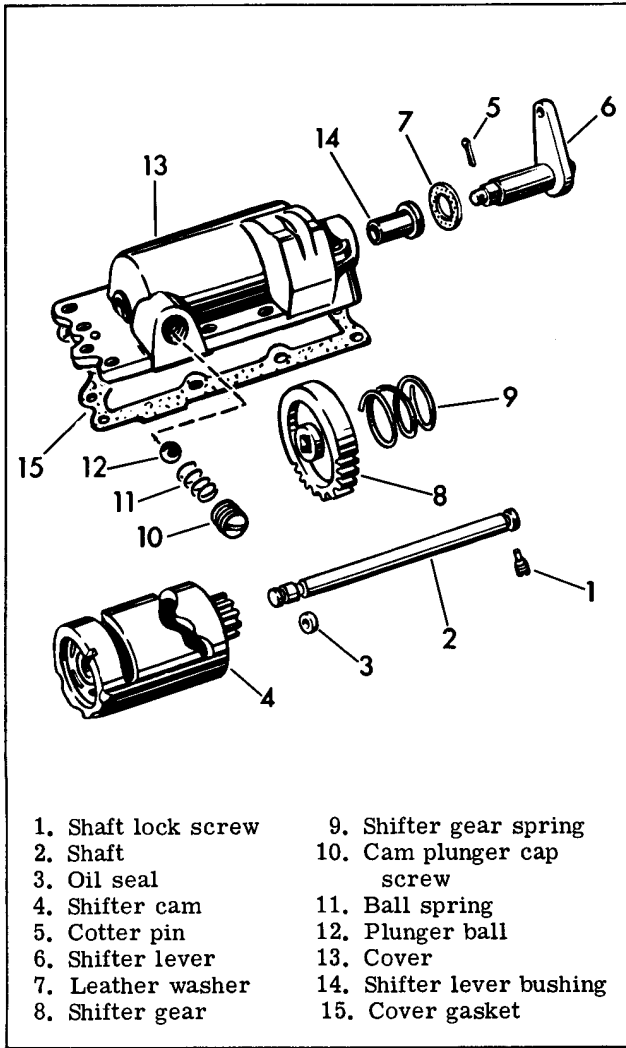
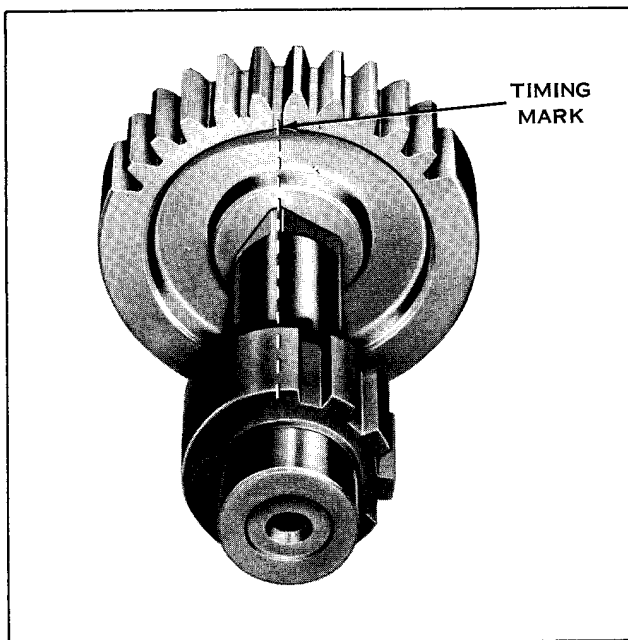

Figure 4-11. Hand Shifter Cover - Exploded View
Figure 4-13. Timing Shifter Gear
Disassemble shifter cover parts 1 through 12 as described in "Disassembling Shifter Cover (Foot Shift)," see Figure 4-11. Time shifter notches as illustrated in Figure 4-13. Loosen screw (14, Figure 4-11) and rotate adapter plate (16) until timing notch (Figure 4-13) in adapter plate, located at bottom of shifter gear hole, lines up with notch between two shifter gear teeth. Make alignment exact, then tighten adapter plate bracket screw to lock in position. This adjustment can be made with shifter in any gear (not neutral).
##### DISASSEMBLING SHIFTER COVER (HAND SHIFT) (Figure 4-11)
#### CLEANING, INSPECTION AND REPAIR (Figure 4-11)
Notice that the timing mark (Figure 4-13) cut between the center teeth on one side of shifter gear is in line with the corner of the squared shaft end and just a little to the left of the last ratchet tooth on the shifter shaft. This is the proper timing alignment.